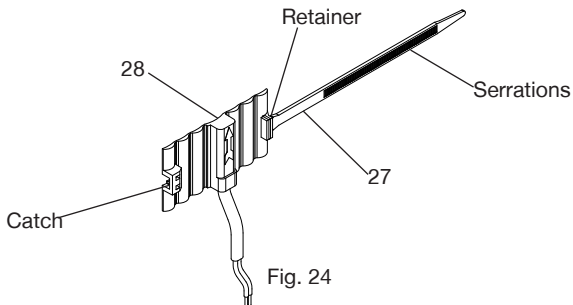

Fig. 24
- Firstly feed the tie wrap (item 13) through the retainer on the reed switch, ensuring that the tie wrap serrations are facing outwards (Fig. 24).